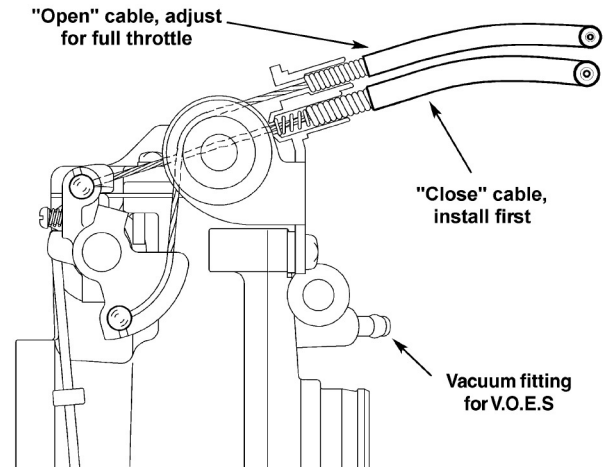

Figure 3: Cable installation guide
3. Connect the "close" cable first (see Figure 3).
4. Install the "open" cable next (see Figure 3).
4. Remove the stock vacuum hose and fit the longer hose furnished in the kit. Trim the new hose to fit onto the HSR vacuum fitting shown in Figure 3.